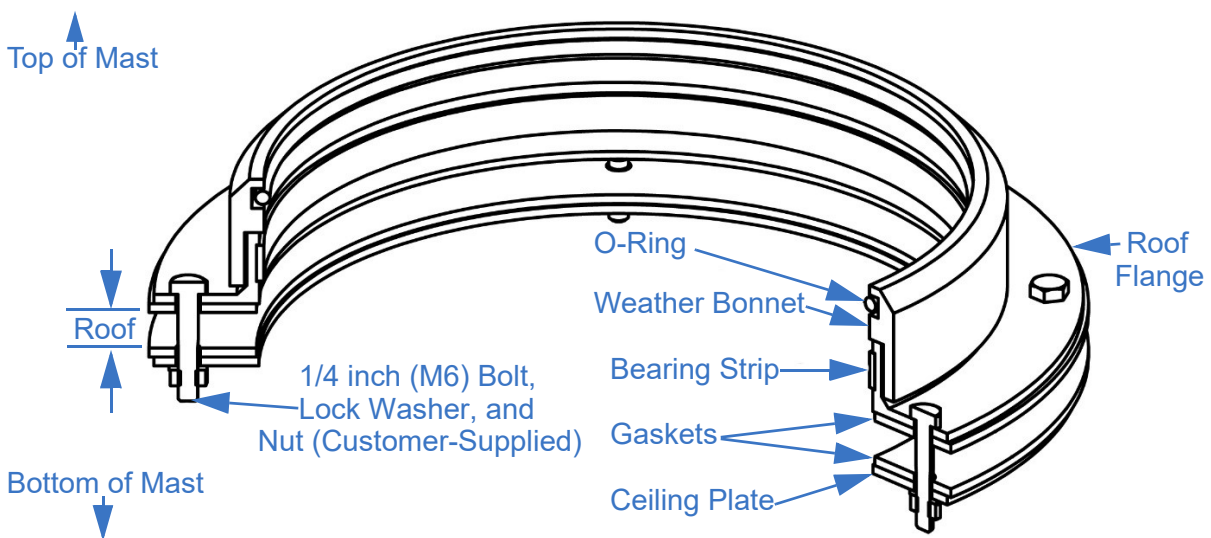
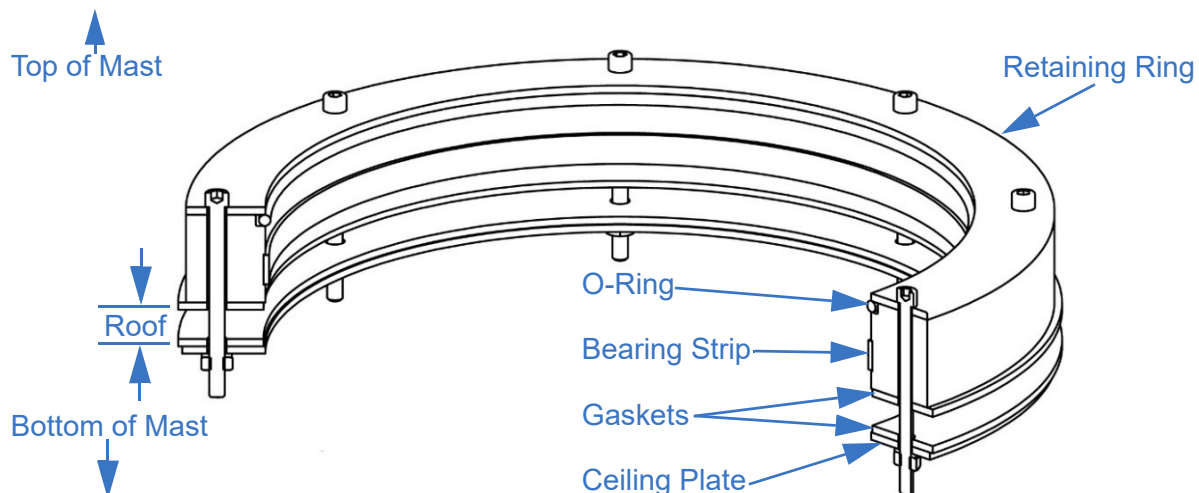
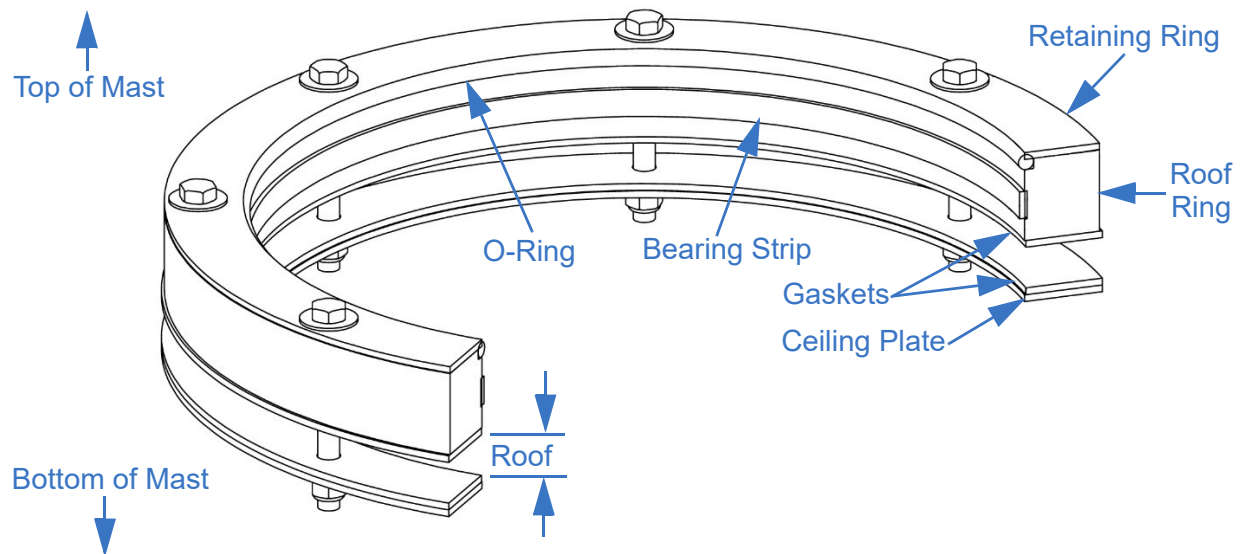

Figure 5-5 Internal Mounting Kit for Standard Duty and Heavy Duty Masts (P/N: 905733)
Figure 5-6 Internal Mounting Kit for Super Heavy Duty Masts (P/N: 910784 Shown)
Figure 5-7 Ultra Heavy Duty Internal Mounting Kit (P/N: 5476101)
3. Center the ceiling plate from the Internal Mounting Kit (Figure 5-5, Figure 5-6, or Figure 5-7) over the hole and use it as a template to drill bolt holes for attachment.
- a. Line up the holes of the roof, the gasket with silicone sealant applied, and the roof flange (Figure 5-5). Ensure the gasket is between the roof and roof flange.
- c. Fit the other gasket (Figure 5-5) against the inside of the roof. This gasket does not need sealant. It will be held in place by the ceiling plate. Fit the ceiling plate in place and ensure all holes align.
Note that the weather bonnet and o-ring are not yet installed (Figure 5-5).
- f. Slide the weather bonnet and o-ring over the bottom of the base tube and up the mast past the drain hole towards the collar. If they are difficult to maneuver, put soapy water on the mast to allow them to slide more freely. Ensure the weather bonnet is oriented correctly, and the o-ring is in the notch in the weather bonnet (Figure 5-5).
- a. Line up the holes in the roof, gasket, and roof ring (Figure 5-6). Ensure the gasket is between the roof and roof ring.
- c. Fit the other gasket (Figure 5-6) against the inside of the roof. This gasket does not need sealant. It will be held in place by the ceiling plate. Fit the ceiling plate in place and ensure all holes align.